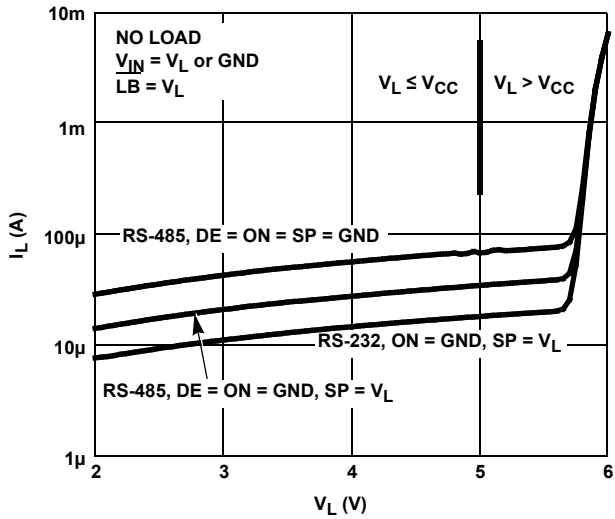

FIGURE 28. RS-232,  $V_L$  SUPPLY CURRENT vs  $V_L$  VOLTAGE (QFN ONLY)
The VL supply current (IL) is typically less than 100μA, as shown in Figures 28 and 29. All of the DC VL current is due to inputs with internal pull-up resistors (DE, SP, LB, ON/OFF) being driven to the low input state. The worst case IL current occurs during SHDN (see Figure 28), due to the IL through the ON/OFF pin pull-up resistor when that pin is driven low. IL through an input pull-up resistor is ~20μA, so the IL in Figure 28 drops by about 40μA (at VL = 5V) when the two SP inputs are high (middle vs top curve). IL is lowest in the RS-232 mode, because only the ON/OFF pin should be driven low. When all these inputs are driven high, IL drops to <1μA, so to minimize power dissipation drive these inputs high when